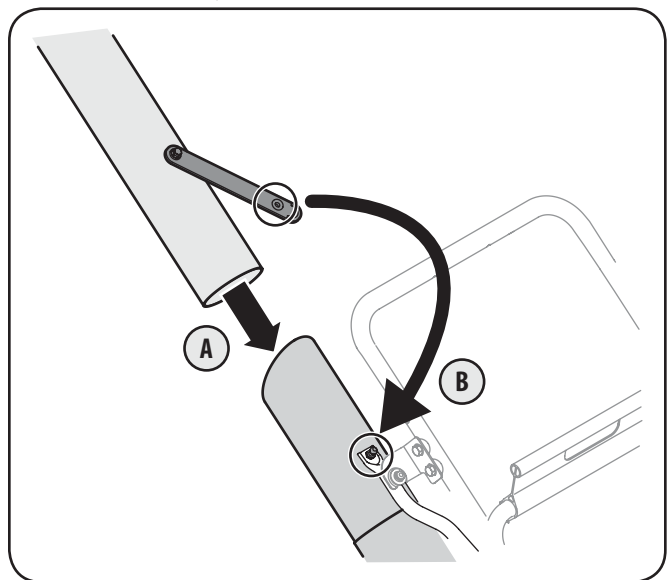

Figure 5-5
- b. Secure strap on hose extension to pin on hose assembly. See Fig. 5-5.